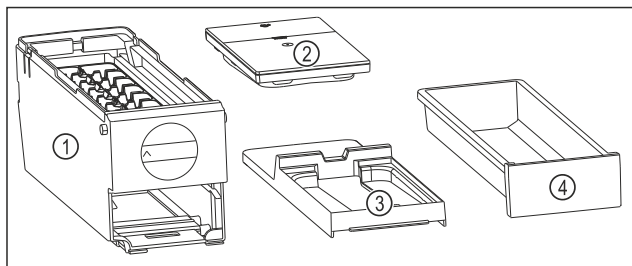

Fig. 93 Components of the EasyTwist-Ice
- ▷ EasyTwist-Ice is disassembled in four parts. (see Fig. 93)
- Only disassemble the EasyTwist-Ice into the illustrated components. (see Fig. 93)
- Clean the EasyTwist-Ice body Fig. 93 (1) as a complete unit.